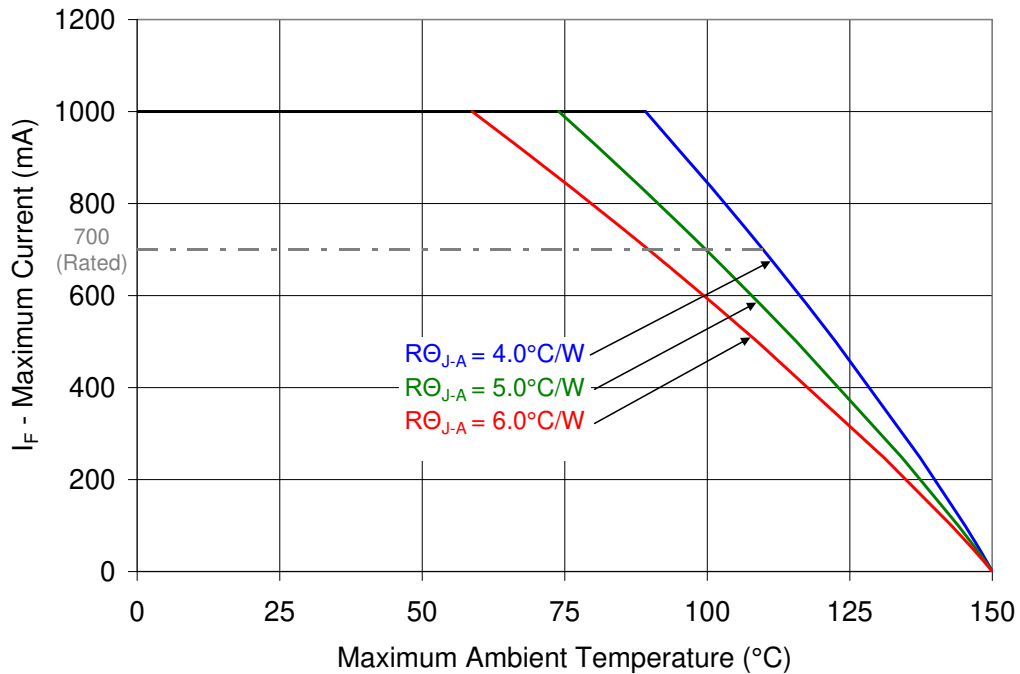

Figure 10: Maximum forward current vs. ambient temperature based on T_{J(MAX)} = 150°C.
- Maximum DC forward current (per die) is determined by the overall thermal resistance and ambient temperature. Follow the curves in Figure 10 for current derating.
Notes for Figure 10: